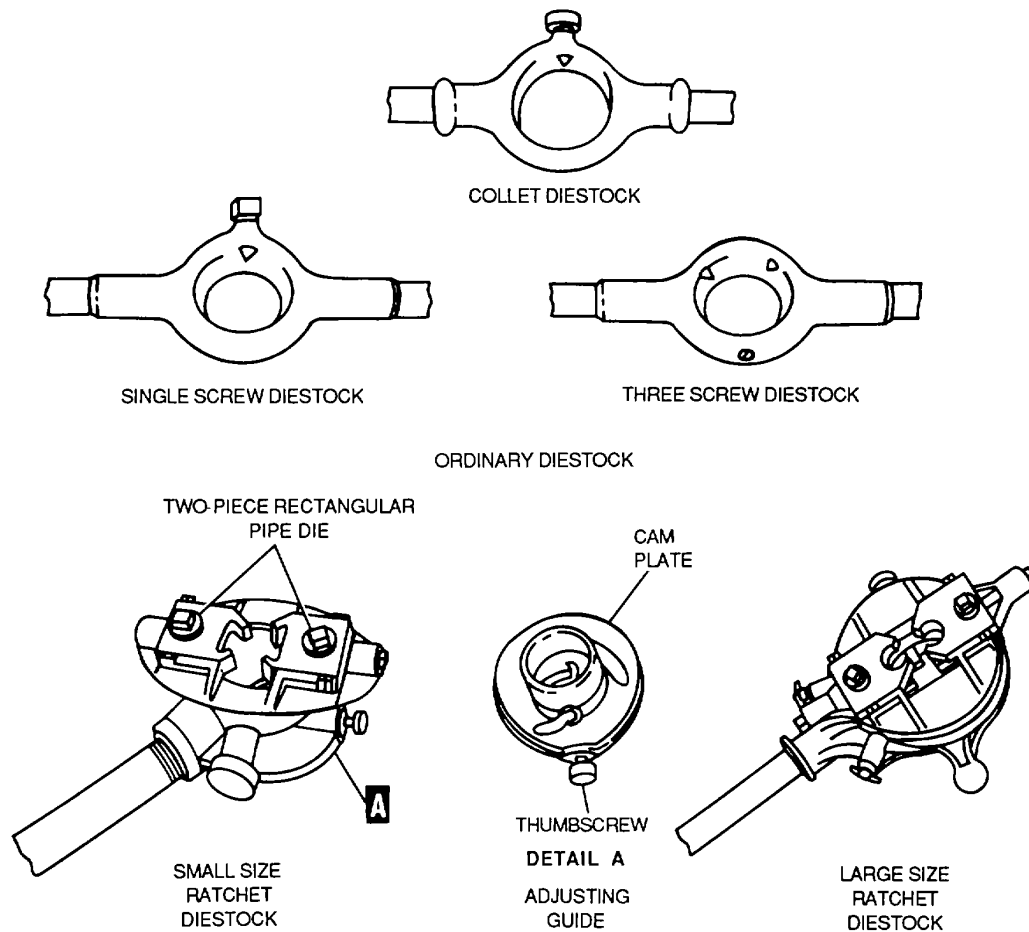

Figure 4-105. Diestocks
(3) *Diestocks.* Figure 4-105 shows the ordinary and ratchet-type diestocks normally used with dies. The ratchet-type diestocks are usually used with rectangular pipe dies.